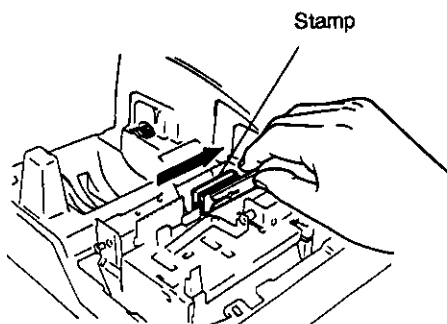

Fig. 4
2. Hold the protruding part of the Store Name Stamp between your fingers, then pull it rightward. (Fig. 4)